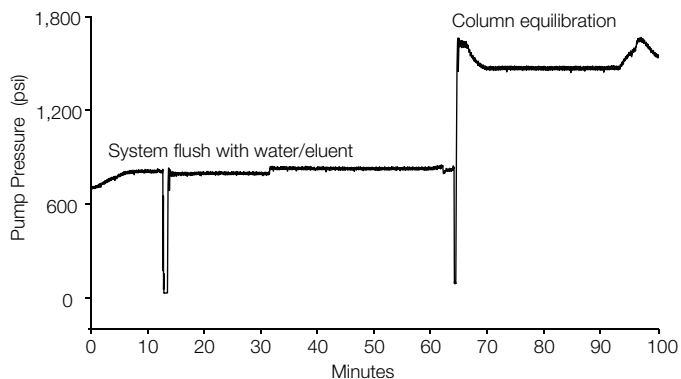

Figure 1. Baseline monitoring (pump pressure) of the system during the installation.
6. Install columns and direct the column effluent to waste for 30 min. Figure 1 displays the pump pressure monitoring of the system flush and column equilibration during installation.